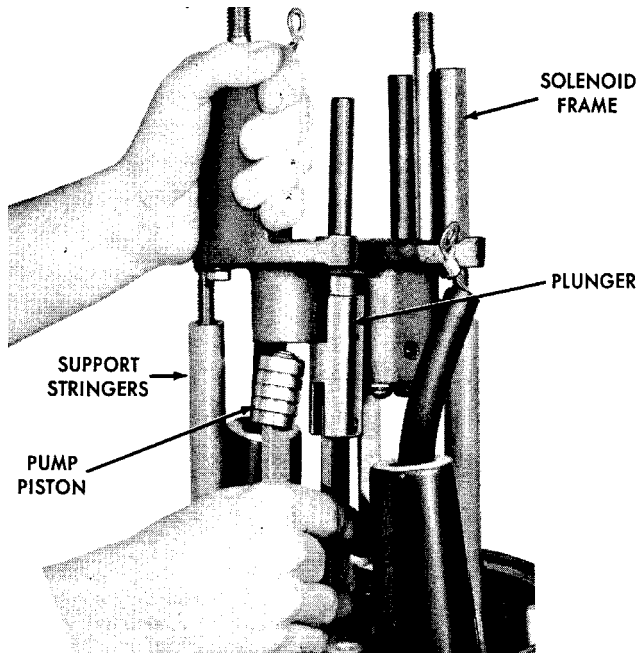

Figure 13. Removing solenoid frame
3. Lift complete solenoid frame and mechanism off support stringers. However, raise the frame slowly because the plunger and pump piston will be withdrawn from their cylinders. Be careful to keep them from falling and being damaged. Figure 13 illustrates a convenient method of removing the solenoid frame.